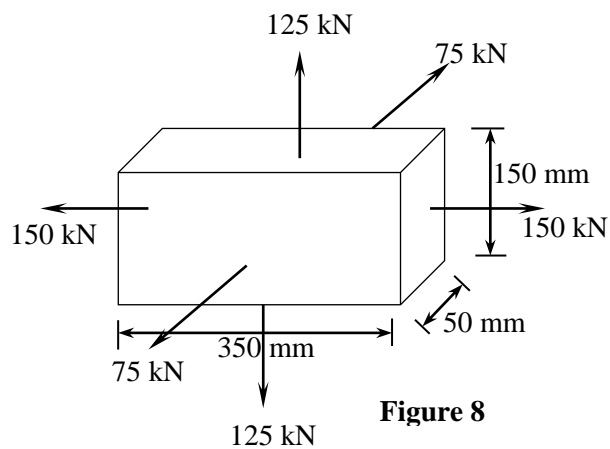

Figure 8
- (c) A rectangular block of size 350mm (l) x 50mm (b) x 150mm (h) is subjected to forces shown in **figure 8**. $E = 2 \times 10^5 \text{ N/mm}^2$ and Poisson's ratio is 0.28, calculate the Change in volume of block. **07**